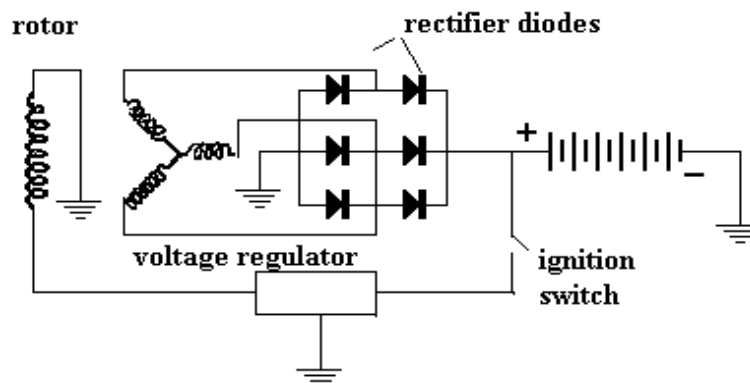

Figure 3.3: *Rectifier assembly*
3. **Rectifier:** The rectifier is a semiconductor device that changes alternating current to direct current. In the alternator, the rectifier allows the direct current to flow to the battery. The circuit for the diodes and the stator in a three-phase alternator is shown in Fig. 3.3. There are six diodes which make up the diode rectifier. They work together to change the AC flowing through the stator windings to DC needed to charge the battery. Figure 3.3 shows a rectifier assembly.